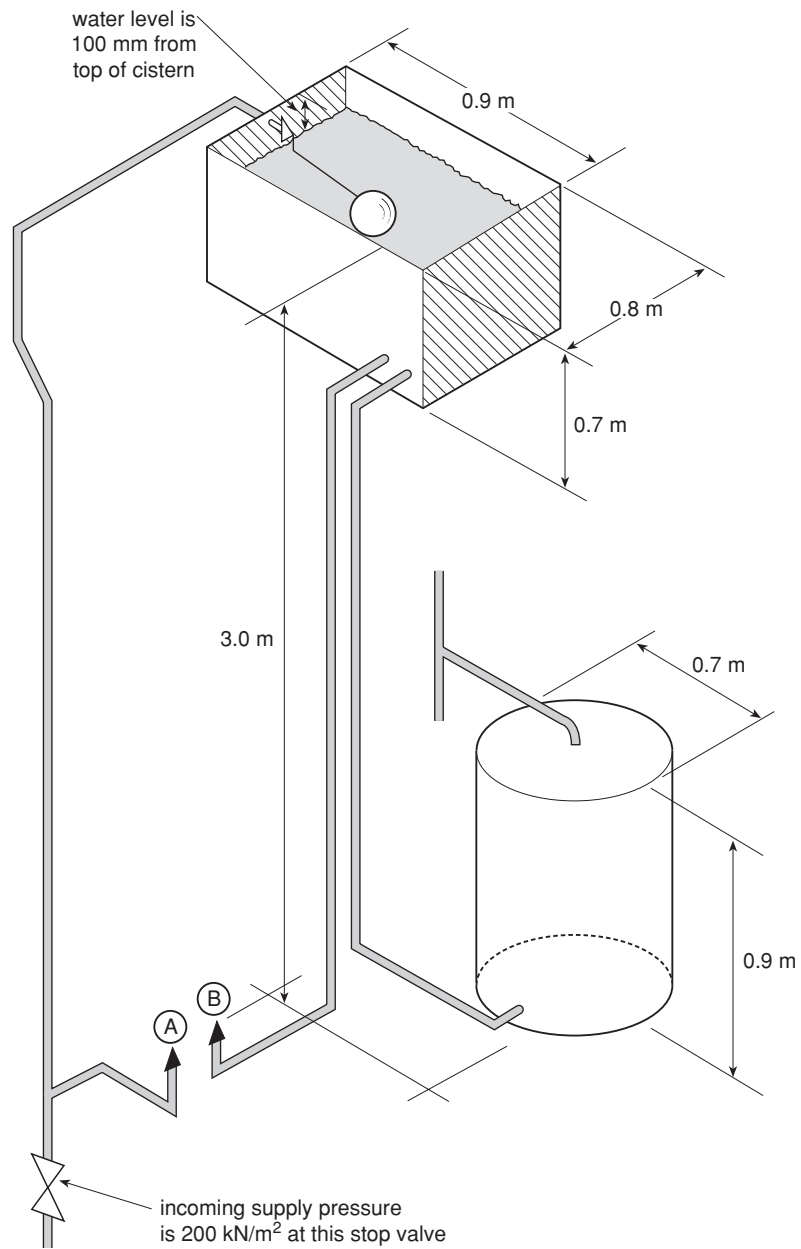

Figure 6
- (16) With reference to the dimensions given in Figure 6, calculate the actual capacity of the storage cistern and the capacity of the dhw storage cylinder. (Page 34.)
- (17) With reference to the dimensions given in Figure 6, calculate the intensity of pressure at tap B and compare this to the mains pressure at tap A. Also find the height to which the mains pressure would rise above the stop valve in a vertical pipe, ignoring the frictional resistance. (Page 38.)
- (18) Find the total pressure at the base of the dhw cylinder in Figure 6. (Page 38.)